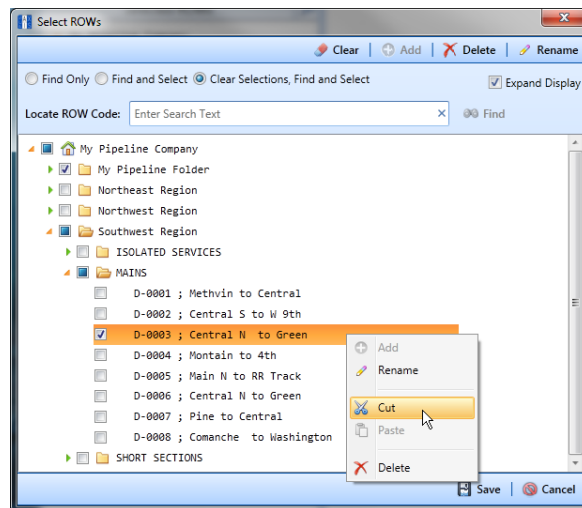

Figure 3-5. Move Pipeline
- 1 If the *Select ROWs* window is not open, click **File > Select ROWs** and then select a pipeline in the hierarchy (Figure 3-5).
- 2 To move the selected pipeline to a different hierarchy folder, right-click the pipeline and select **Cut** in the shortcut menu that opens. Right-click the hierarchy folder you want to move the pipeline to and then select **Paste** in the shortcut menu that opens (Figure 3-5).